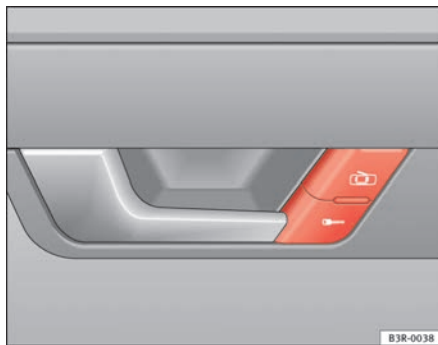

Fig. 70 Detail of driver door: Central locking switch
- Press the  ⇒ **fig. 70** ⇒  button.